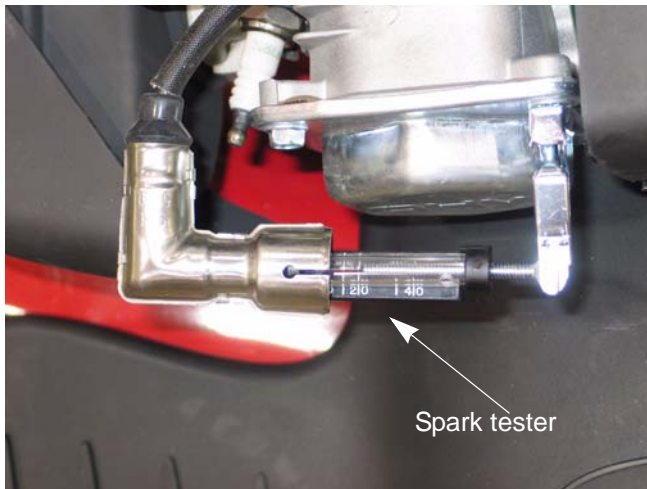

Figure 4.1
- 1c. Connect the other end of the spark tester to the engine block. See Figure 4.1.